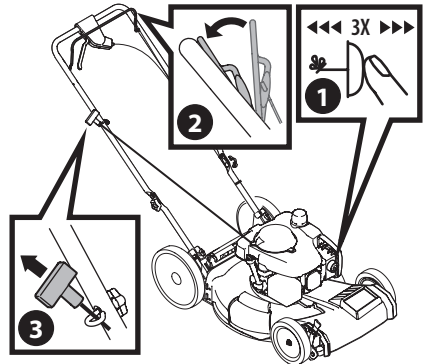

Figure 5
1. Push primer 3 times. Wait about two seconds between each push (Figure 5). In temperatures below 50°F, prime 5 times. After the engine is warmed up, one prime may be needed for all temperatures.
3. Pull the recoil starter handle lightly until resistance is felt, then pull rapidly to overcome compression, prevent kickback, and start the engine (Figure 5). Repeat if necessary.